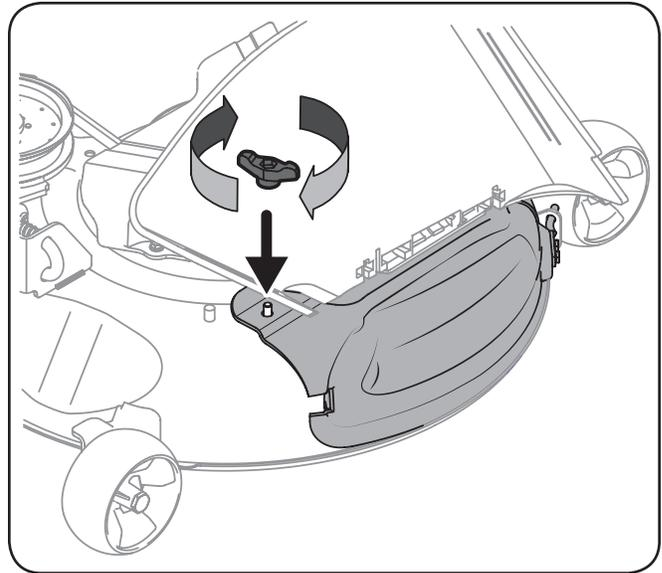

Figure 1-5
3. Secure the mulch plug in place with the wing knob. See Figure 1-5.